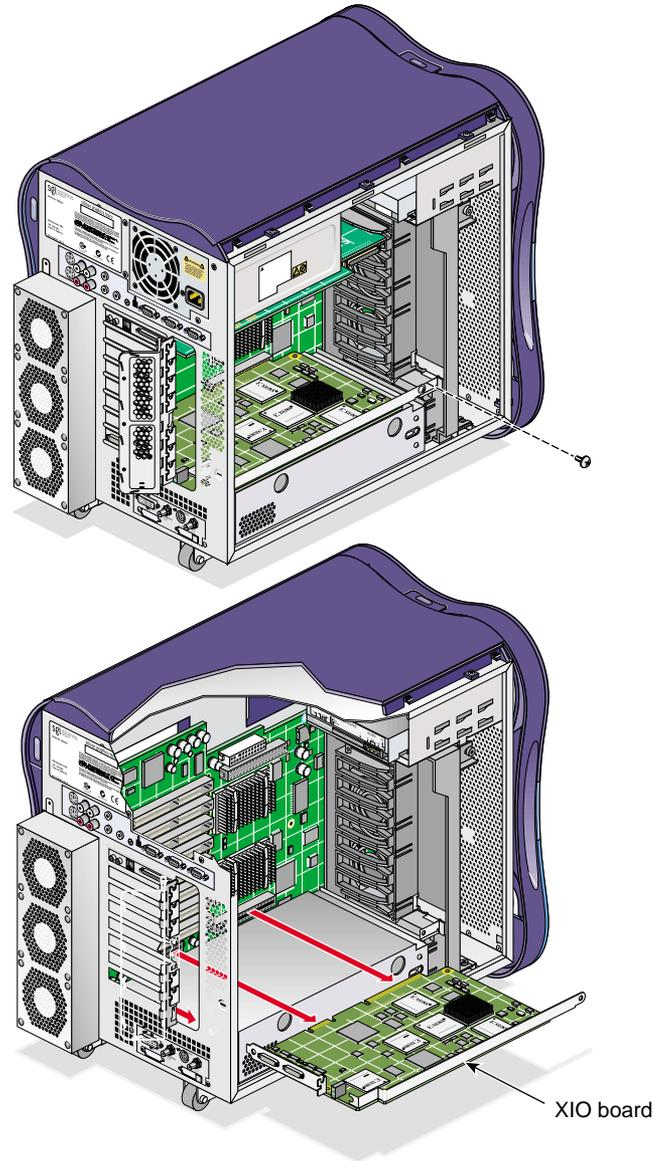

Figure 3-27 Removing an XIO Board
3. Gently grasp both ends of the XIO board. Then pull straight out until it clears the XIO slot. Tilt the front end of the board upward until it clears the edge of the chassis. Then remove the board from enclosure and place it in a safe location (see Figure 3-27).